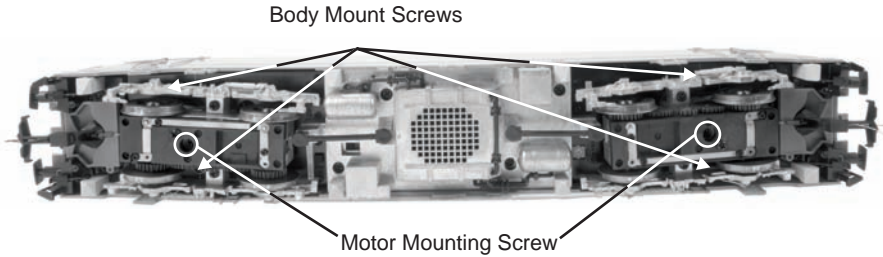

Figure 9: Body Removal Screw Locations and Motor Mounting Screws
1. To access the motor/gear box, remove the cab from the chassis by unscrewing the body mount screws as seen in Figure 9 and lifting the cab from the chassis.
2. Once the cab is removed, remove the trucks by unscrewing the black Phillips motor mount screw located on the underside of the drive trucks (see Fig. 9).